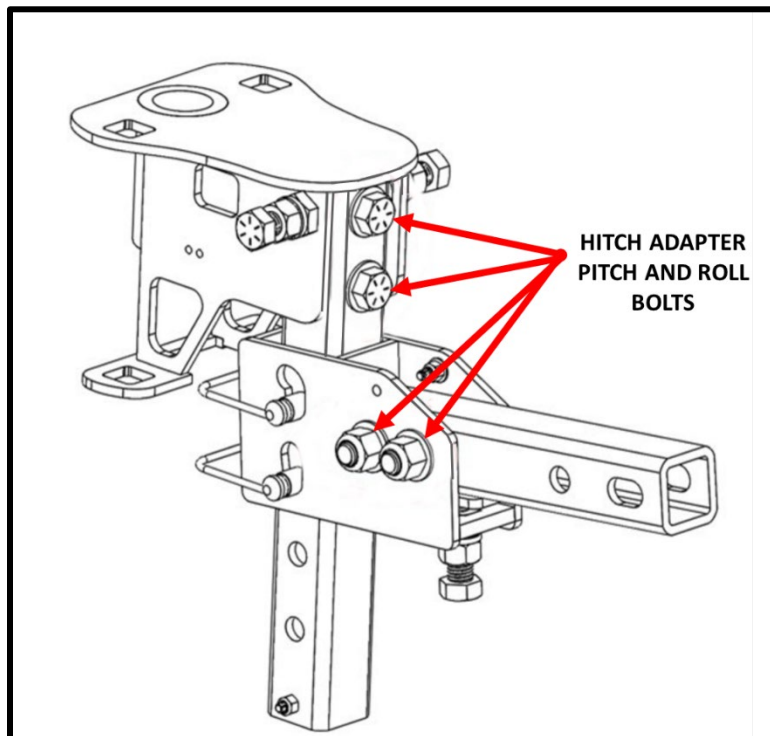

Figure 2. Hitch Adapter Pitch/Roll Bolts
5. Examine the four hitch adapter pitch and roll bolts shown in Figure 2.